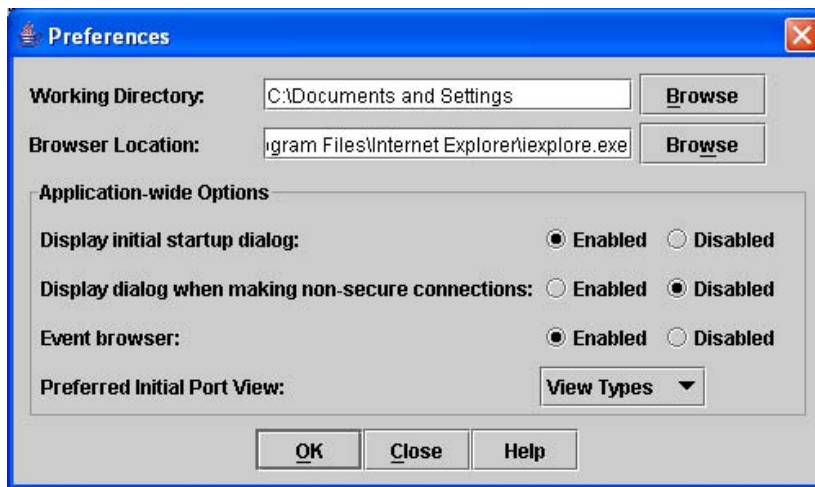

Figure 3 Preferences dialog – McDATA Web Server
- Enable (default) or disable the Event Browser. Refer to "Displaying the Event Browser" on page 43. If the Event Browser is enabled using the Preferences dialog as shown in Figure 3, the next time McDATA Web Server is started, all events will be displayed. If the Event Browser is disabled when McDATA Web Server is started and later enabled, only those events from the time the Event Browser was enabled and forward will be displayed.